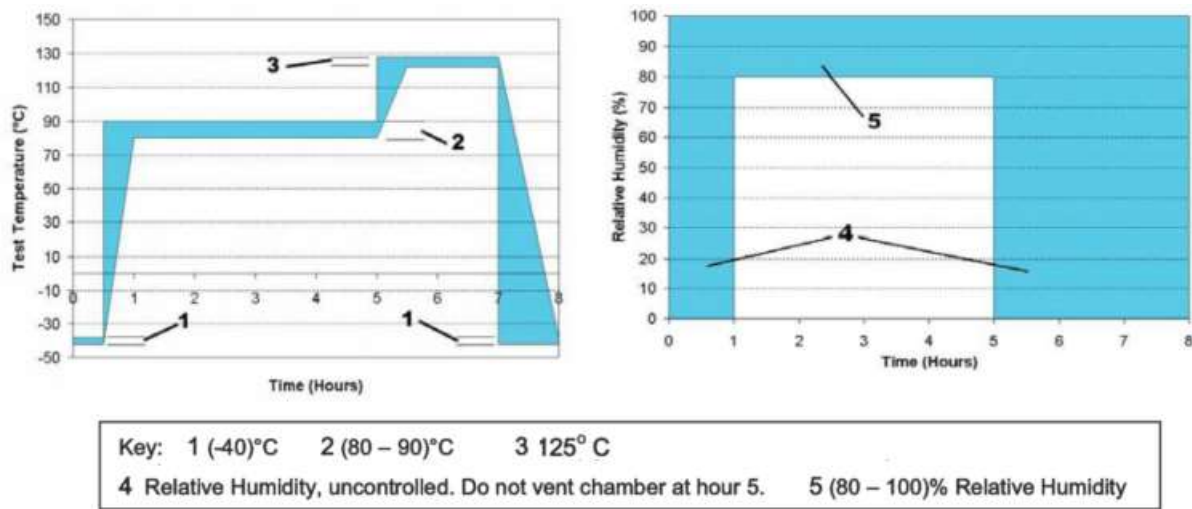

Fig. 4
5.4 Temperature/Humidity Cycling Schedule (see Fig. 4)